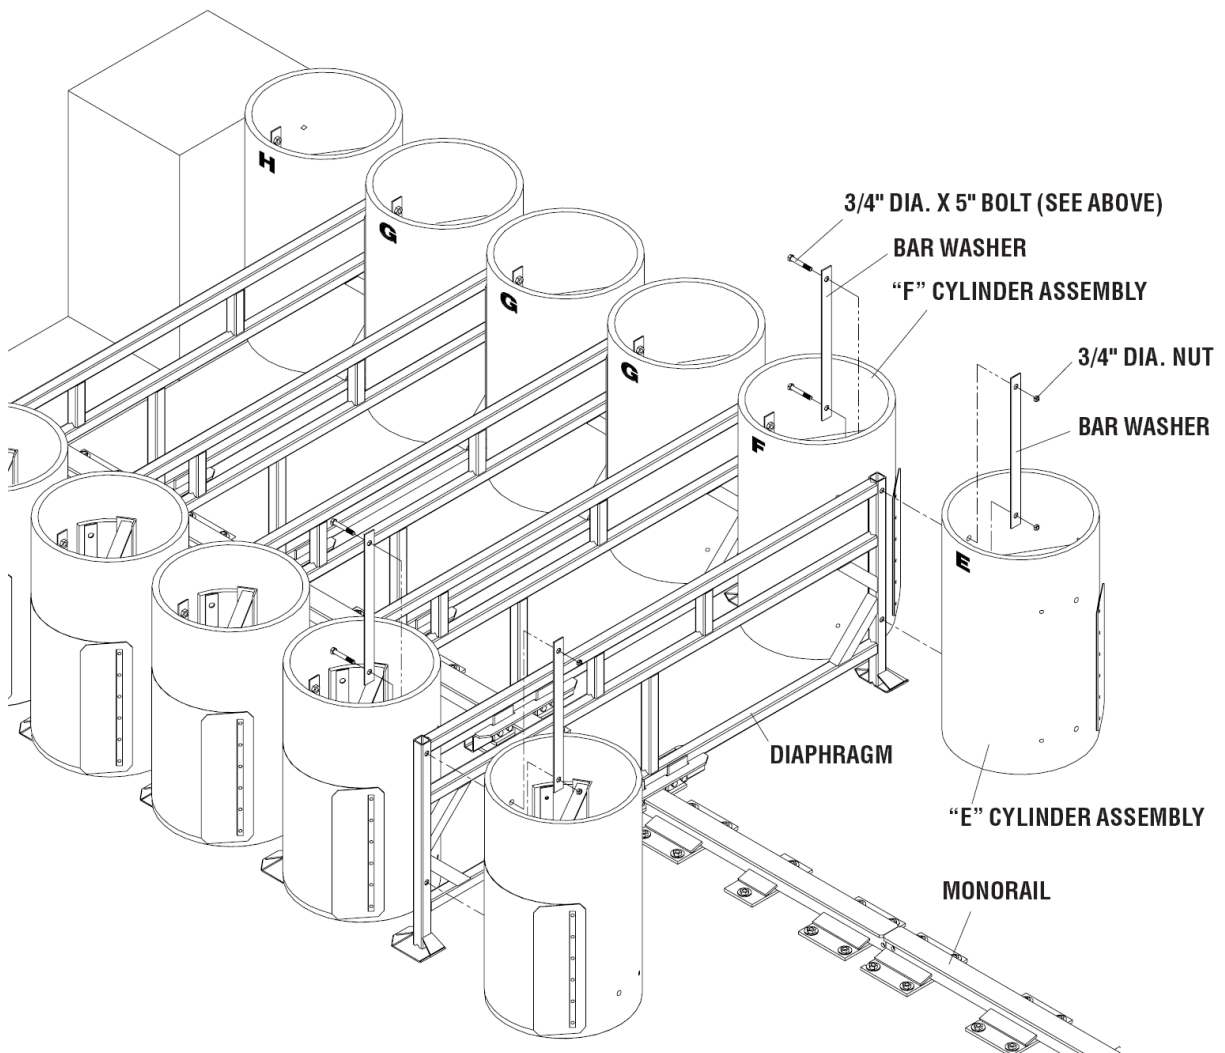

Figure 26
3. Reassemble "E" Cylinder/Diaphragm Assembly onto "F" Cylinder Assemblies as shown in Figure 26.